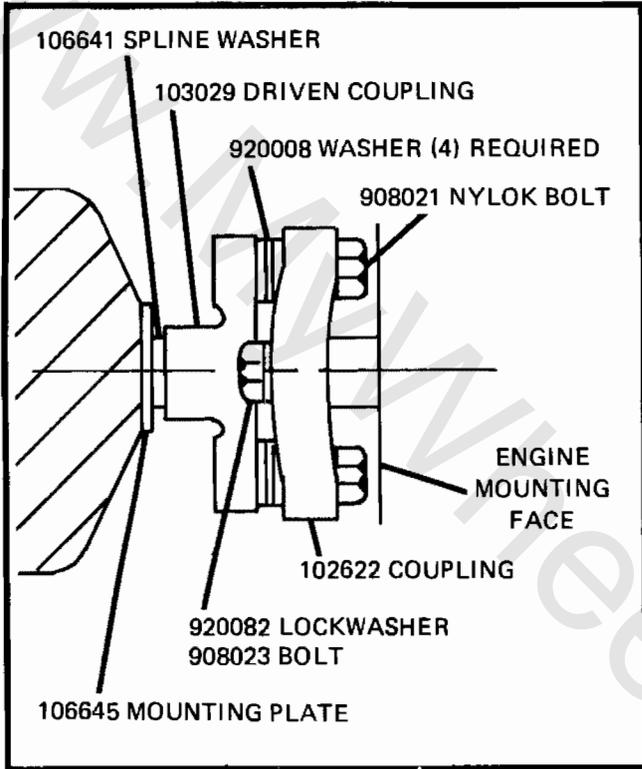

Fig. 1-2 D-160 Flex Coupling
- a. D-160 - install engine/pump flex coupling parts as shown in Fig. 1-2